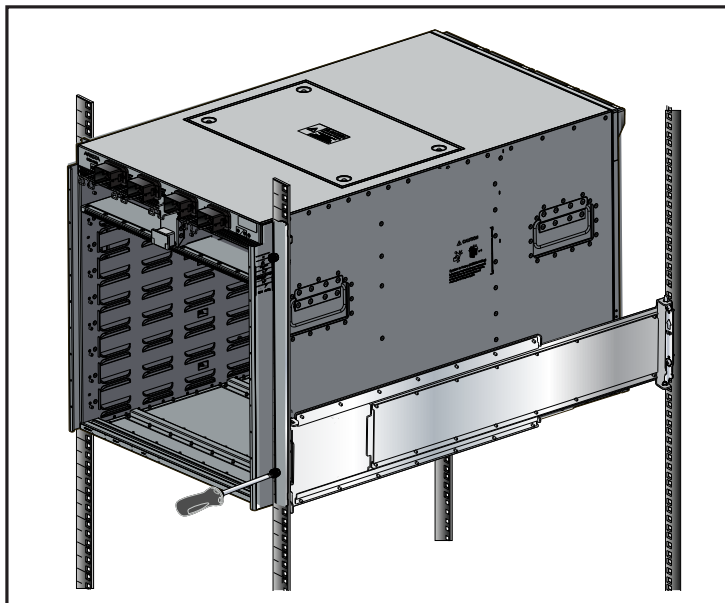

Figure 3-10: Inserting the Switch onto the Rack Shelf
Step 3 Secure the chassis by tightening the four thumbscrews on the front flanges into the rack posts (Figure 3-10).